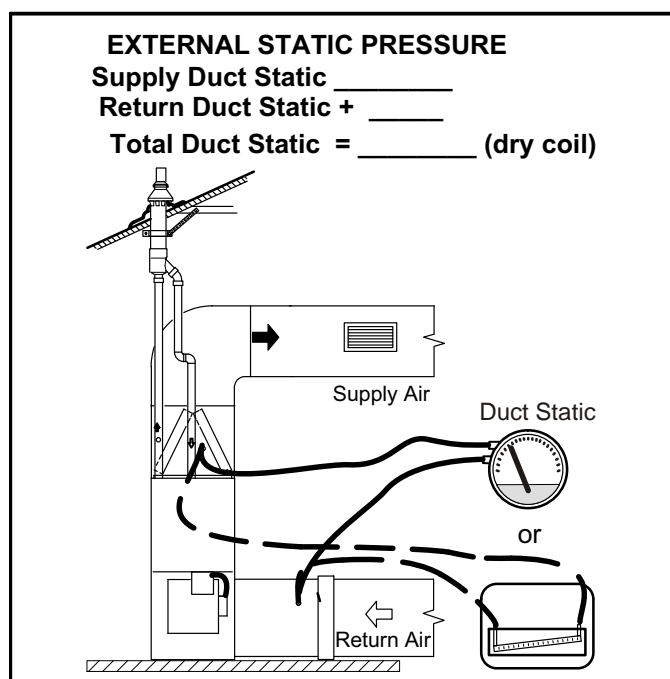

FIGURE 55
- 1 - Tap locations shown in figure 55.